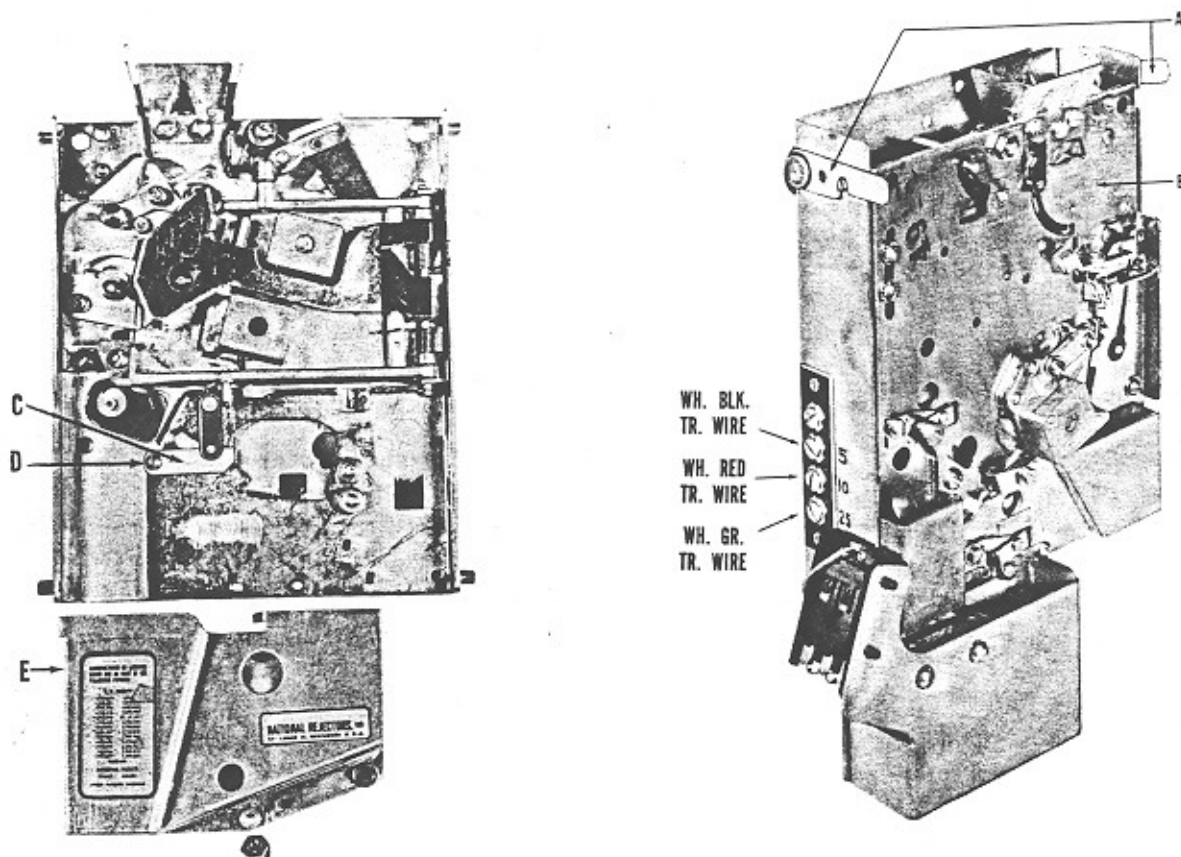

FIG. 6 SLUG REJECTOR
1. Lift pawl (A-Fig. 6) on each side of slug rejector housing, pull top of slug rejector (B-Fig. 6) forward, lift up and forward to remove.
- E. Set slug rejector to reject 5c coins by removing cover plate on slug rejector (E-Fig. 6). Loosen screw (D-Fig. 6) and insert 5c coin stop (C-Fig. 6) under head of screw (D-Fig. 6). Then tighten screw and replace cover plate.